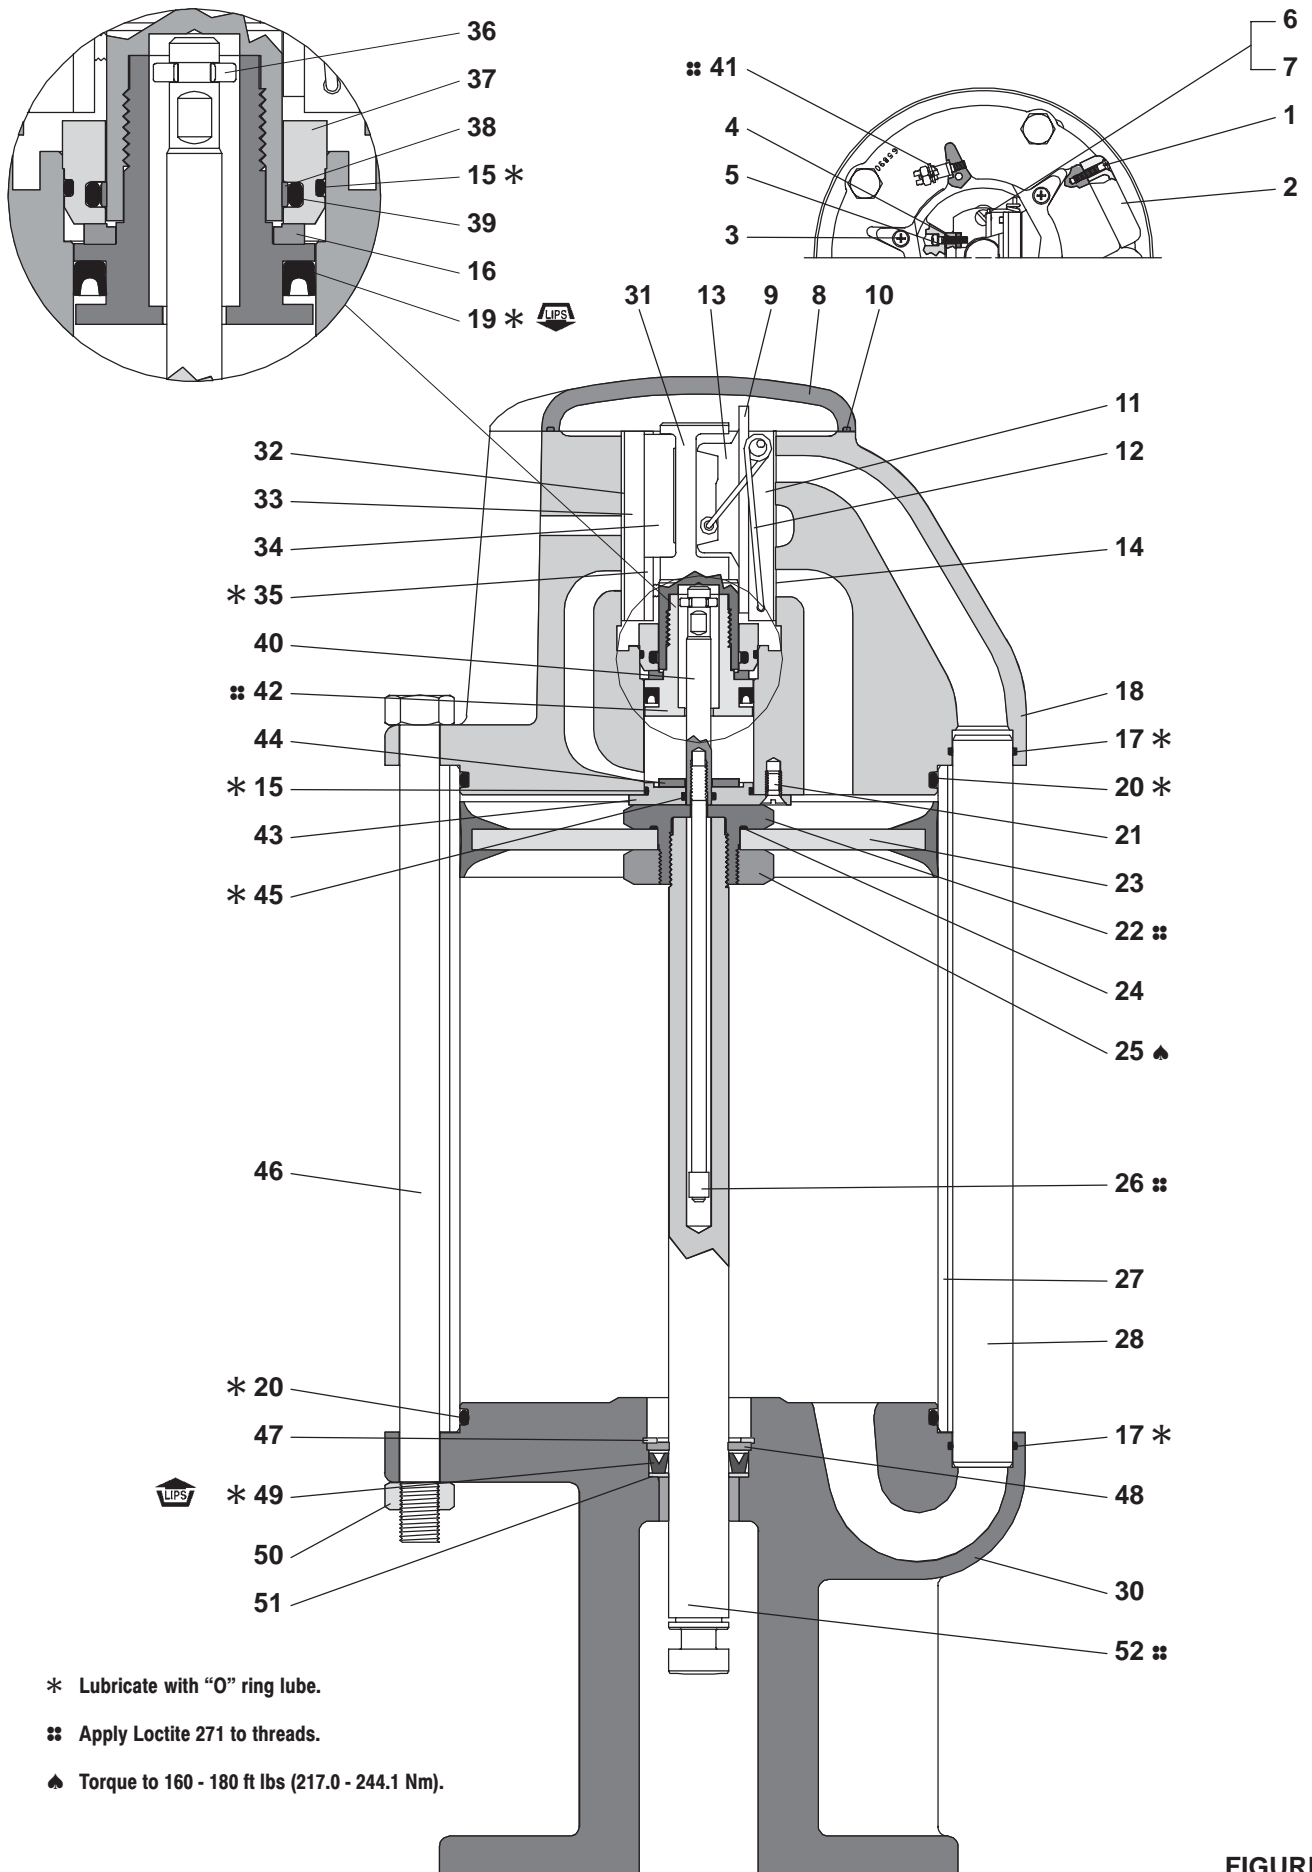

FIGURE 2
39. Insert the (12) insert spring assembly in the (18) head assembly, with the hooks down and the nylon roller toward the (31) valve piston (see figures 2 and 8).
41. Thoroughly grease and insert the (13) valve insert into the (18) head assembly (see figure 2).
42. Thoroughly grease and insert the (14) gasket and the (11) valve plate and pin assembly between the (13) valve insert and the (18) head assembly, with the two pins in the (11) valve plate and pin assembly up (see figures 2 and 8).
47. Thoroughly grease and install the (10) gasket in the (8) air motor cap.
48. Place the (8) air motor cap on the (18) head assembly and secure with the six (3) screws (see figure 2).
49. Place the (2) deflector on exhaust port of the (18) head assembly, with the opening down, and secure with four (1) machine screws (see figure 2).